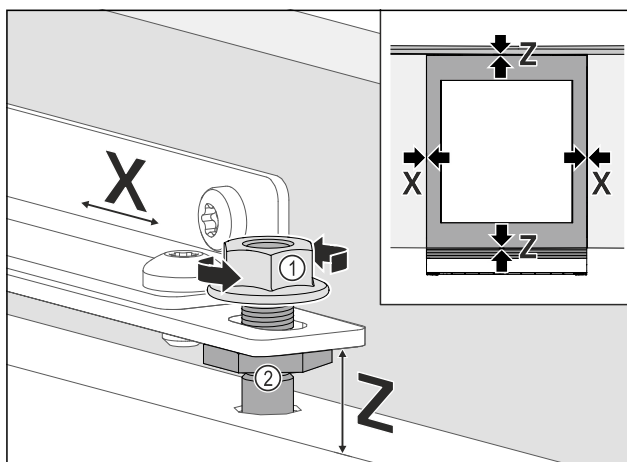

Fig. 104
- Align the unit door sideways: Loosen lock nut Fig. 104 (1), move unit door in X direction.
- ▶ Tighten the lock nuts *Fig. 104 (1)*.
- ▶ Align the unit door in height **Z** and in the lateral inclination: Adjust the adjustment bolt *Fig. 104 (2)*.